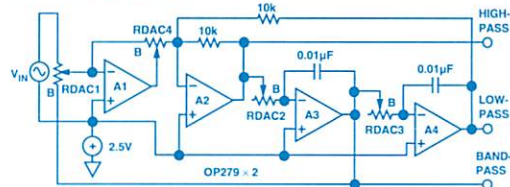

Figure 4. Programmable state-variable active filter.
Active filter: The state-variable filter circuit can simultaneously exhibit low-pass (LP), high-pass (HP), and bandpass (BP) filter characteristics; it is an analog computing circuit solving a second-order differential equation. Digital pots and resistors can be used instead of DACs to program frequency, gain, and Q (Figure 4).¹ The filter circuit uses a $+2.5\text{-V}$ virtual ground, which readily allows up to 4-V p-p input and output swing for each stage.